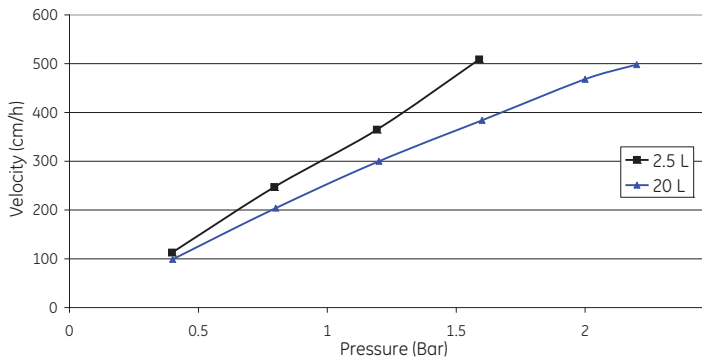

Fig 3-1. Pressure/flow profile for RTP MabSelect SuRe 2.5 and 20, water run in room temperature 20°C.
- 3) While the maximum liquid pressure stated depends on the pressure rating of the column, restrictions for the maximum pressure drop over the column depend on the packed chromatography medium, in order to ensure bed stability. The pressure drop between inlet and outlet of the ReadyToProcess column should therefore never exceed the specified maximum pressure drop listed in Table 3-1 on page 20. See Fig 3-1. "Pressure/flow profile for RTP MabSelect SuRe 2.5 and 20, water run in room temperature 20°C." on page 20 for a typical curve.
The pressure drop over the packed bed depends on the applied liquid velocity, as well as the viscosity and temperature of the liquid. In order to ensure stability of the packed bed a maximum pressure drop of 2 bar shall not be exceeded. Typically, a liquid velocity of 350 cm/h results in a pressure drop of less than 2 bar when using the largest column (20 L) with aqueous solutions at room temperature. Pressure/flow curves for RTP MabSelect Sure columns are shown in Fig 3-1 for operation with water at room temperature (20°C).